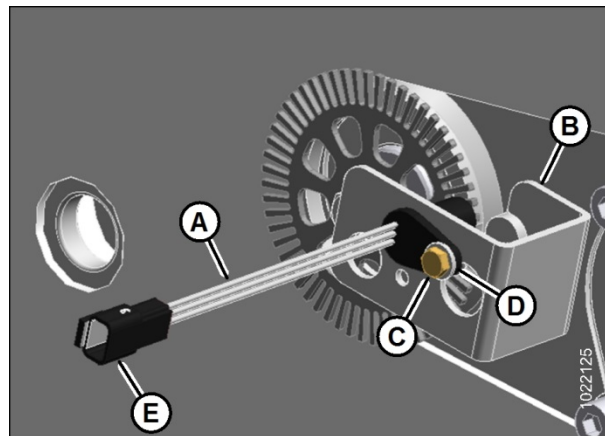

Figure 5: Speed Sender Installed
6. Insert 1.25 in. long hex head flange bolt (A) (MD #135965) through center of trigger wheel plate (B) (MD #209854), and then through spacer (C) (MD #157378).
7. Add 1 or 2 washers (D) (MD #18599) as needed to ensure gap between speed sender (shown in Figure 5) and trigger wheel plate (B) is 0.5–2.5 mm (1/64–3/32 in.).
8. Apply medium strength threadlocker (Loctite® 242 or equivalent) to bolt (A), and then use it to secure the trigger plate (B), spacer (C), and washers (D) to the end of the reel drive shaft. Torque bolt (A) to 113 Nm (83 lbf-ft).